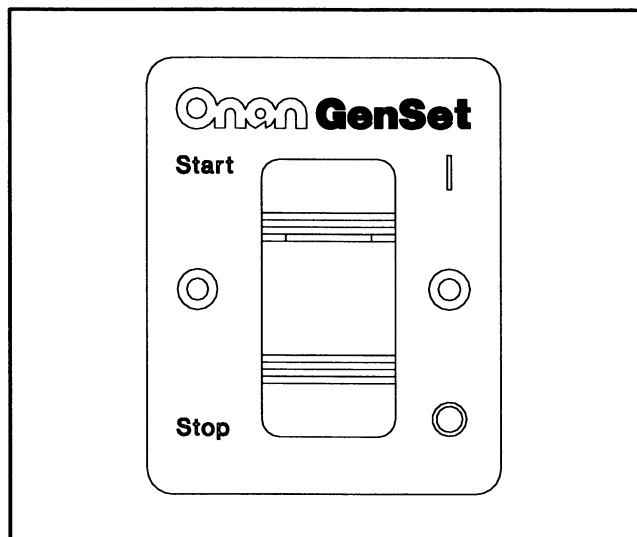

FIGURE 4. START/STOP SWITCH ONLY PANEL
- Remote panel with start/stop switch and indicator lamp only (see Figure 4).